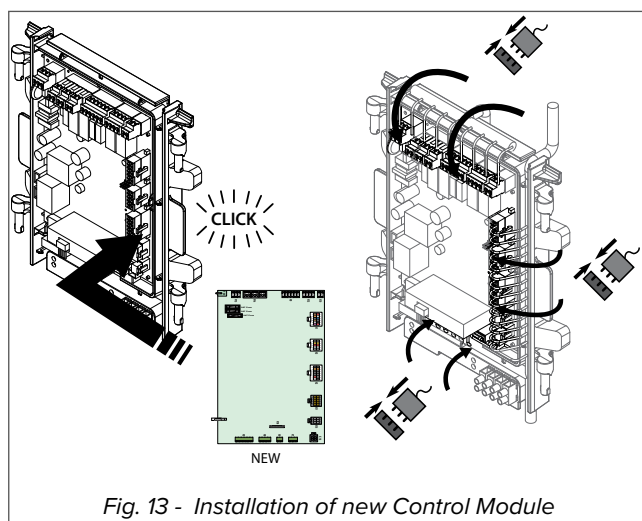

Fig. 13 - Installation of new Control Module
5. Install new circuit board, making sure it is secured in the retaining clips (See *Fig. 13*).